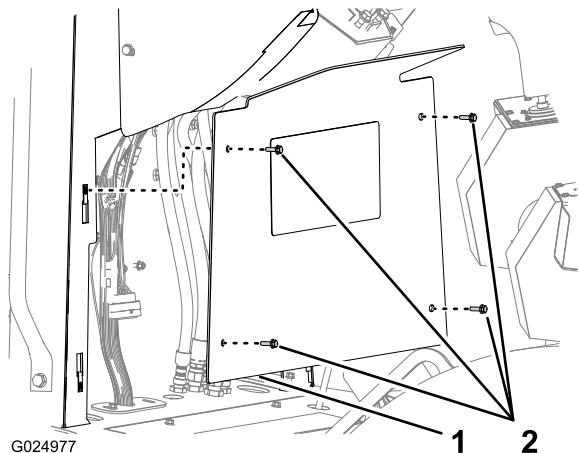

Figure 123
1. Remove the 4 hex-flanged head bolts (6 x 20 mm) that secure the lower-console panel to the console, and remove the panel (Figure 123).
3. Align the lower-console panel to the console (Figure 123).